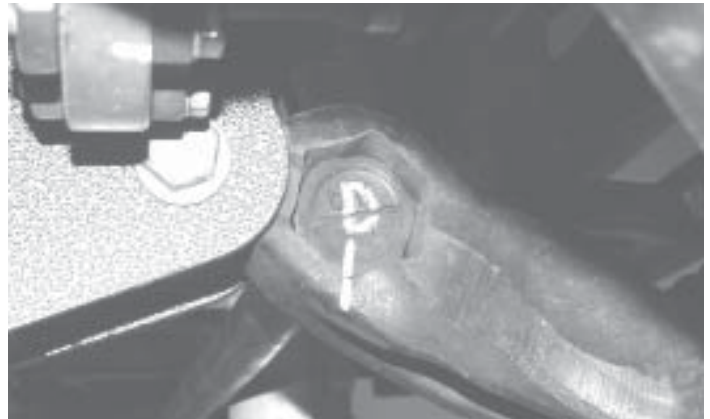

Fig. 3
- C. When load has been relieved from the torsion bars, mark the torsion bars using a paint pen to indicate the driver and passenger side bars. **Fig. 3**
- E. Mark the control arms and the front end of the torsion bars to indicate the indexing of the bars relative to the control arms. **Fig. 3**